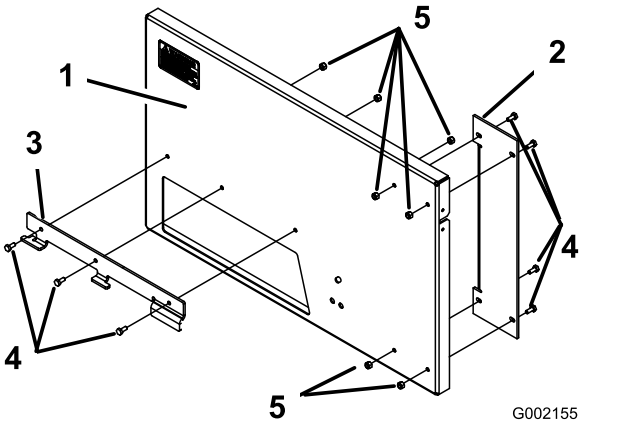

Figure 2
1. Install the support on the back plate using 4 bolts (1/4 x 5/8 inch) and locknuts (1/4 inch) as shown in Figure 2.
2. Install the mounting bracket on the back plate using 3 bolts (1/4 x 5/8 inch) and locknuts (1/4 inch) as shown in Figure 2.